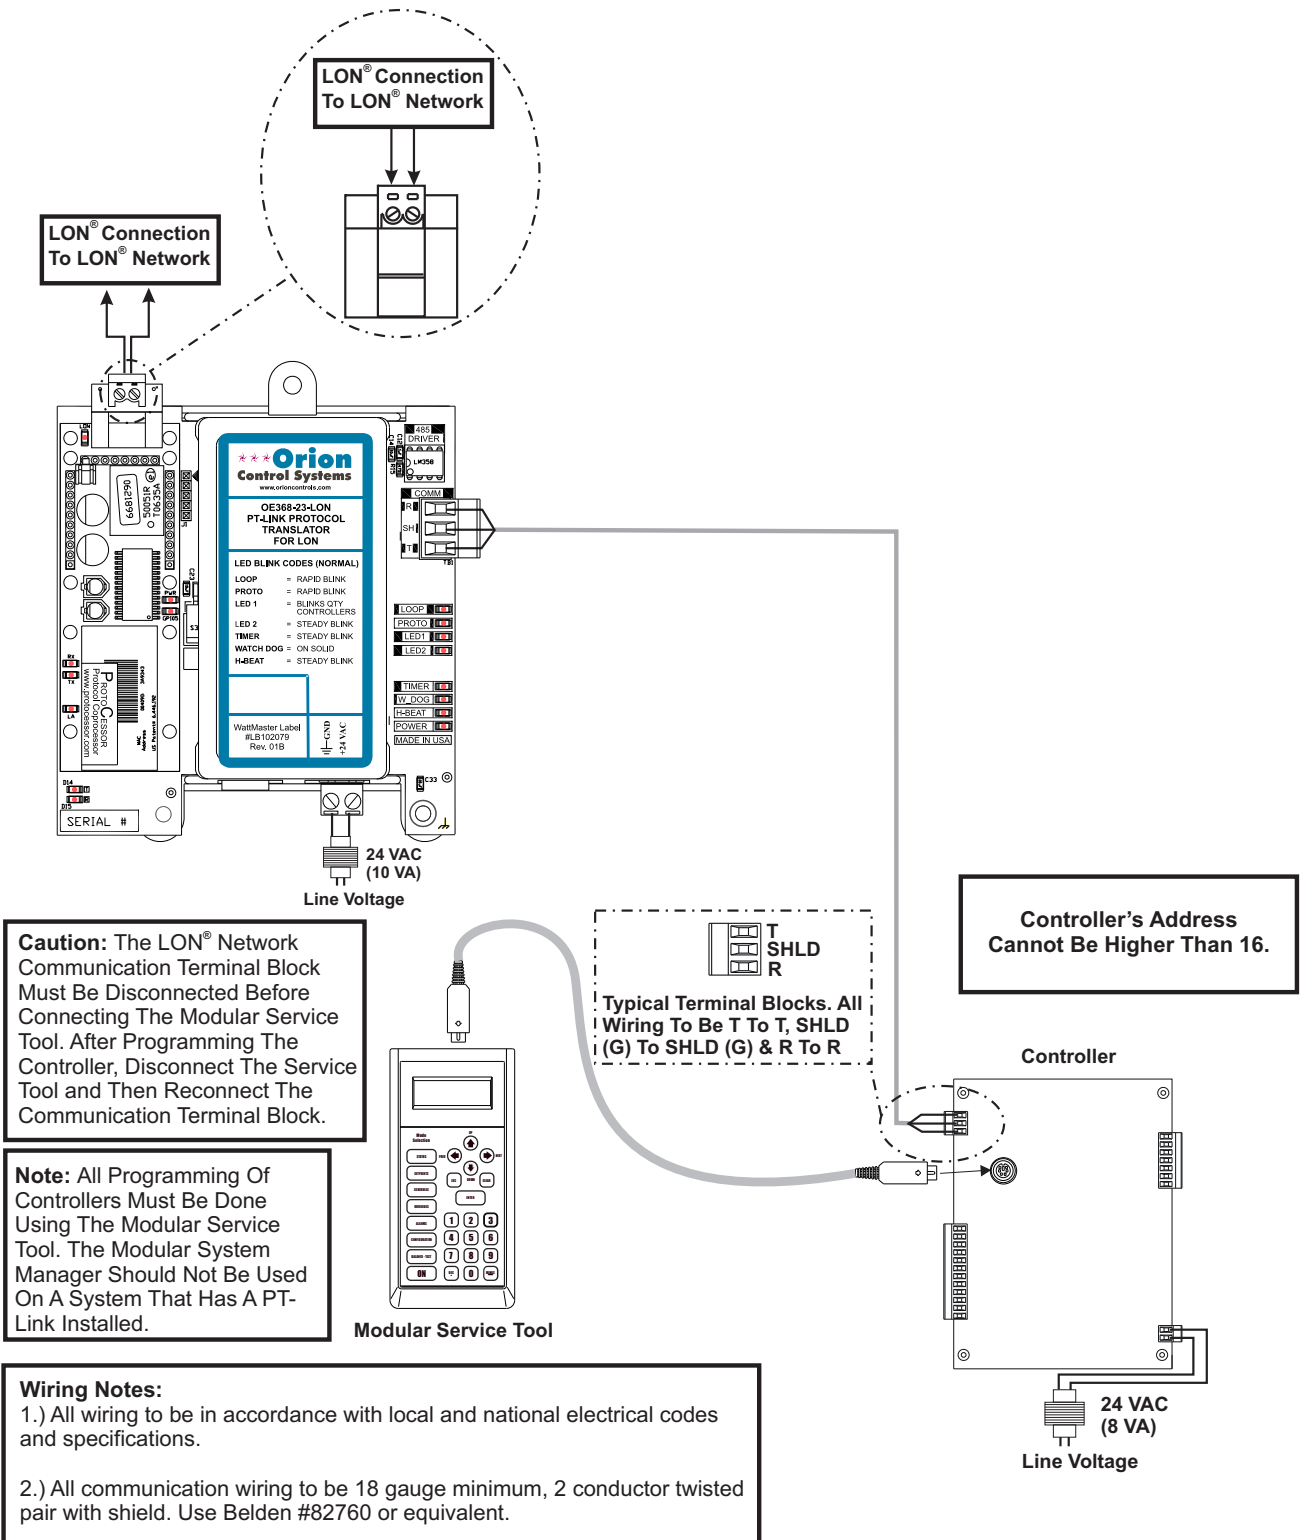

Figure 2: PT-Link II LON® Interface Wiring
2. Connect your PT-Link II to the Controller on your system (only one) and connect your PT-Link II to the LON Network (**Figure 2**).